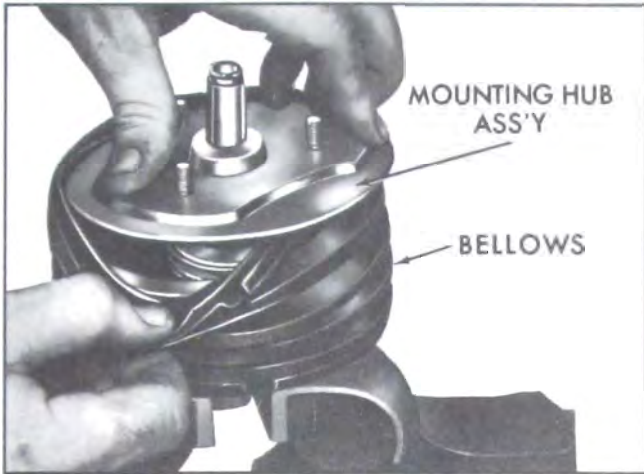

Figure 9-30—Removing Mounting Hub Assembly
5. Still holding mounting hub down, remove lip of bellows from hub (Figure 9-30), then lift mounting hub assembly and return spring from power unit.